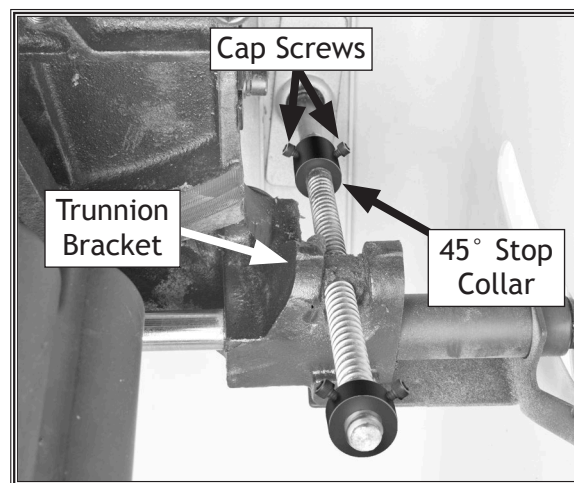

Figure 92. 45° stop collar and cap screws.
5. Open the motor access cover, loosen the cap screws on the 45° stop collar (see **Figure 92**), then turn the collar one turn away from the trunnion bracket. This will allow you to adjust the blade to exactly 45° in the next step.